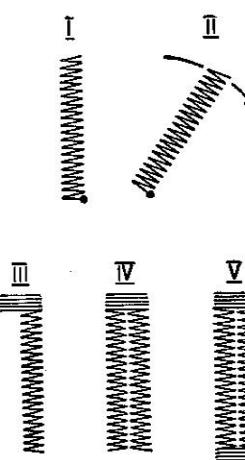

Fig. 43
- Bring lever « B » (Fig. 1) on 1.5 and make first row of stitches (Fig. 43, Operation I) going as far as to reach the limit marked by the guide. Leave needle in fabric.
- Raise presser foot and turn fabric half a turn around needle (Fig. 43, Operation II). Lower presser foot.
- Make first bar tack with 3 or 4 stitches (Fig. 43, Operation III) and stop sewing with needle out of fabric.
- Bring lever « B » on 1.5 and make second row of stitches as long as the first (Fig. 43, Operation IV). Stop sewing with needle out of the fabric.
- Bring lever « B » on 3 and make second bar tack (Fig. 43, Operation V).